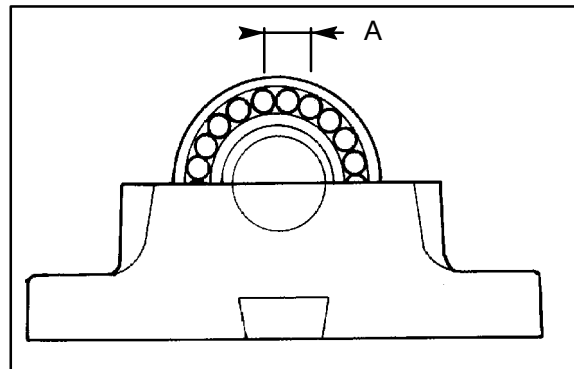
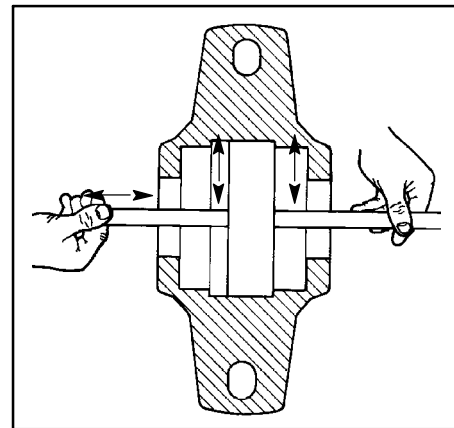

Fig. 16. Push the feeler gauge between the rollers and outer ring.
Fig. 17. Measuring the clearance.
1. Remove the fastening bolts (M10) (7) and the upper bearing housings (6).
4. Bend the claw of the securing ring (3) out from the notch on the axle nut and open the axle nut.
5. Remove the spacer ring (3) if the bearing is at the feeder side.
6. Measure the radial clearance on top of the bearing between the rollers and outer ring with a feeler gauge. The clearance should be 0.02–0.03 mm (0,0008–0,0012 "). Measure the clearance by pushing the feeler gauge between the rollers (point A, Fig. 16.) through the bearing and then moving the gauge back and forth between the rollers and outer ring – see Fig. 17. Do not force the feeler gauge through the clearance.
7. If the clearance exceeds 0.03 mm (0,0012"), bend the claw of the securing ring (2) out from the notch on the axle nut (1).
11. Install the upper bearing housing and tighten the bolts (6) to 50 Nm (36 7/8 lbf).